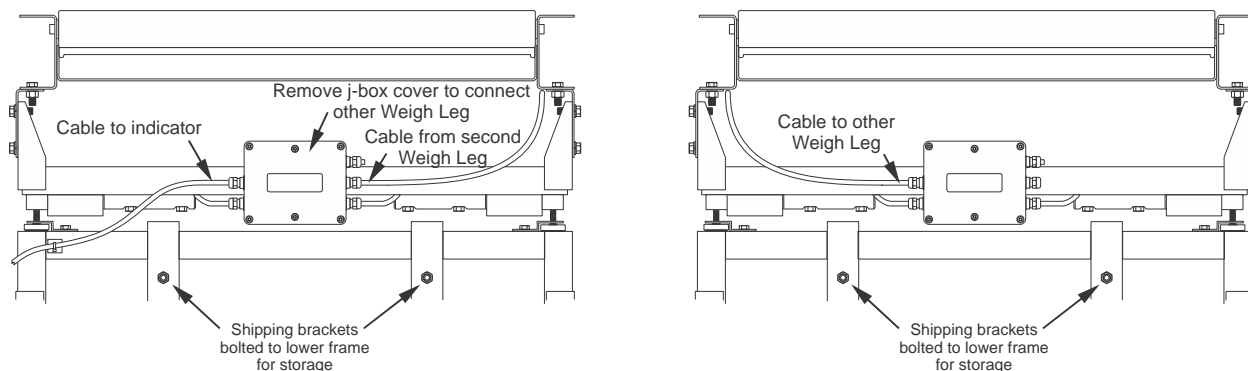

Figure 2.4 Cable routing
4. The J-box interconnect cable on one leg must be connected to the junction box on the other Weigh Leg. See Figure 2.4.